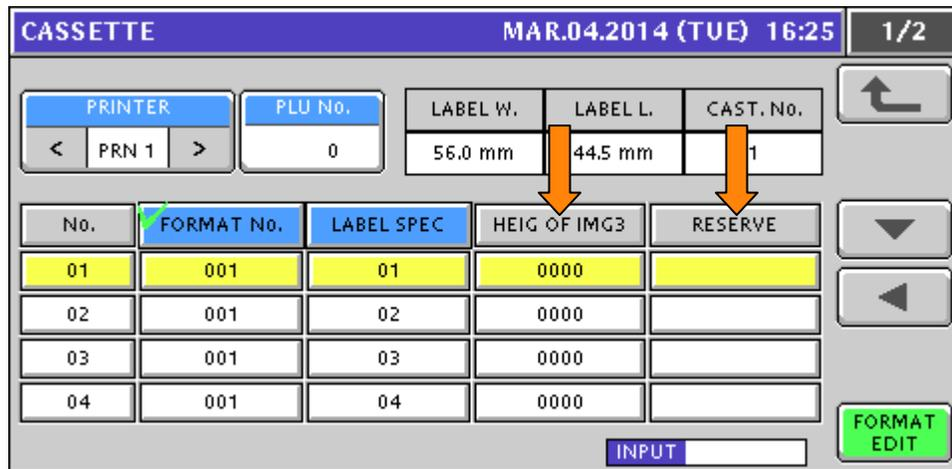

Figure 7.12 Label Cassette Setup: Height of Logo Image 3
39. Press the ► button to move to the next page. See Figure 7.12.